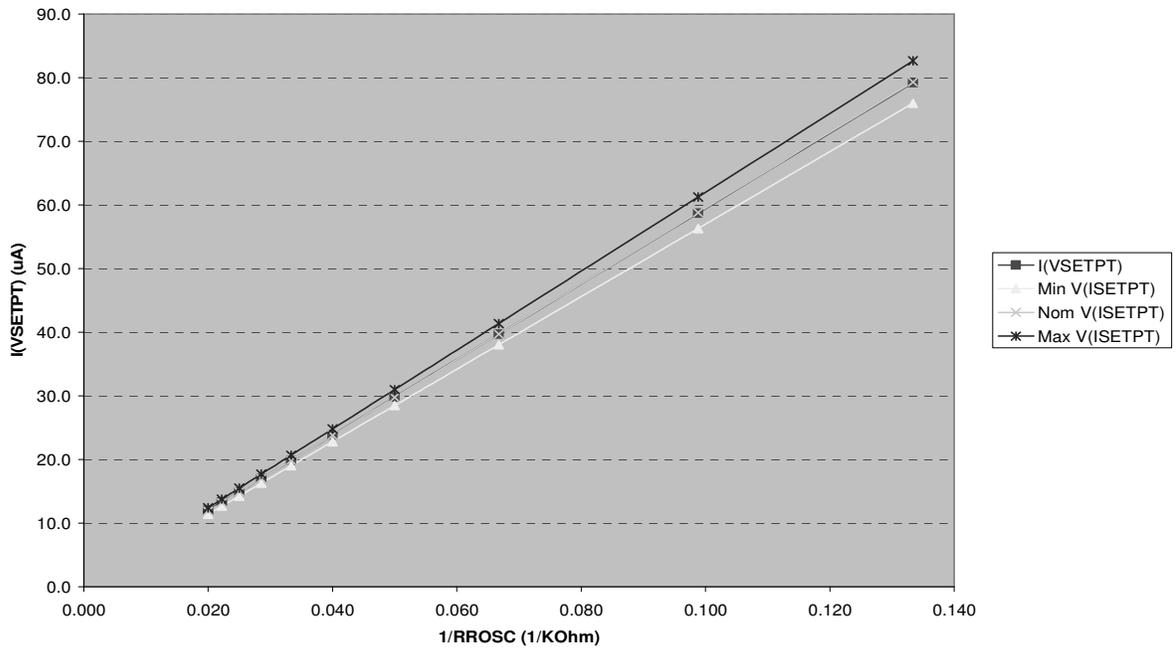

Figure 19: ISETPT with ROSC.
A resistor between VSETPT pin and VDAC is used to create output voltage offset VO_NLOFST, which is the difference between VDAC voltage and output voltage at no load condition. RVSETPT is determined by (26), where IVSETPT is the current flowing out of VSETPT pin as shown in Figure 19.
From Figure 19, the bias current of VSETPT pin is 30 uA with $R_{OSC}=17.4 \text{ k}\Omega$.